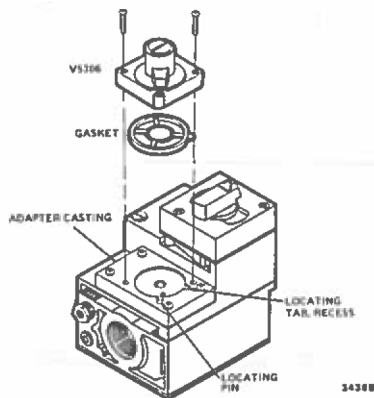
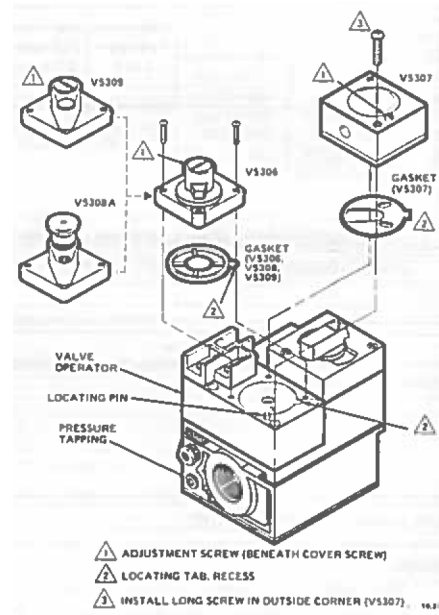

Fig. 1. Installing pressure regulator on adapter casting.
Fig. 2. Servo pressure regulator installation on combination gas control equipped with valve operator.
1. Note location of regulator as shown in Fig. 1 and 2.
4. Press new gasket into circular recess in adapter casting (Fig. 1) or operator cavity (Fig. 2).
5. Press regulator gasket into circular recess of adapter casting (Fig. 1).
6. Position new regulator over locating pin (Fig. 1). and fasten with screws provided. Tighten evenly and securely.
3. Press regulator gasket into circular recess of adapter casting (Fig. 1) or operator cavity (Fig. 2).
1. Check input to main burner by clocking gas meter or by using a pressure gauge (manometer) connected to downstream pressure tapping (Fig. 2). The standard natural gas model is factory-set at 3.5 in. (0.87 kPa) outlet pressure, and the standard LP gas model is set at 11 in. (2.7 kPa). If adjustment is required, proceed with step 2.
2. Remove cover screw (Fig. 2). Using screwdriver, turn adjusting screw clockwise to increase or counterclockwise to decrease gas pressure to burner.
1. With main burner operating, check input by clocking gas meter, or check burner manifold pressure using pressure gauge (manometer) connected to downstream pressure tapping (Fig. 2).
2. If adjustment is required, remove cover screw (Fig. 2). Using a small screwdriver, turn adjusting screw clockwise to increase or counterclockwise to decrease gas pressure to burner. Replace cover screw.
- a. With burner operating check gas input by clocking gas meter, or check burner manifold pressure using pressure gauge (manometer) connected to downstream pressure tapping (Fig. 2).
- a. Remove the cover screw (Fig. 2).
- a. With burner operating, check gas input by clocking gas meter, or check burner manifold pressure using pressure gauge (manometer) connected to downstream pressure tapping (Fig. 2).